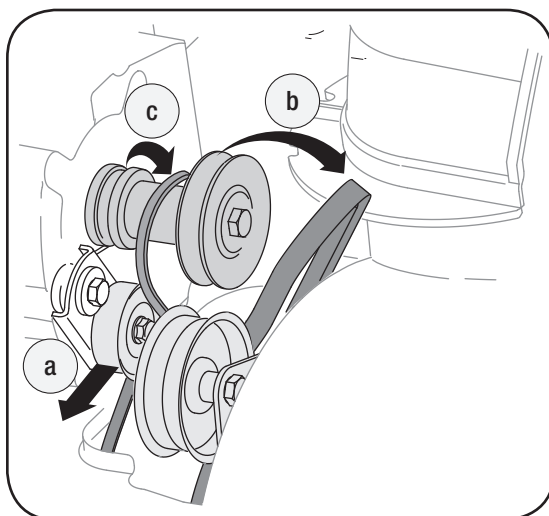

Figure 6-11
3. a. Use a wrench to pivot the idler pulley toward the right. See Figure 6-11.